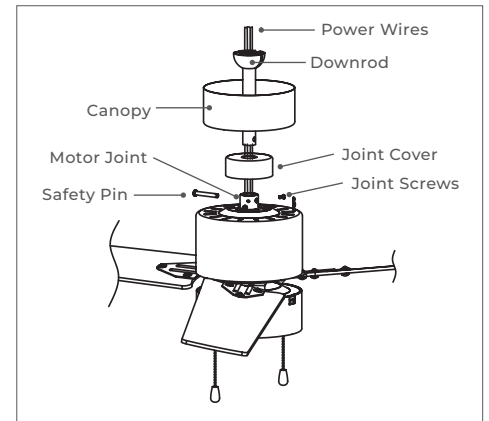

FIGURE 9
D) Loosen joint screw halfway to clear the way for downrod. Take out and save the safety pin on the downrod. Place the canopy and then joint cover onto the downrod. Thread power wires from the motor through the downrod. Insert downrod into the motor joint. Align holes and insert safety pin and clip. Fasten the joint screw. (Figure 9)